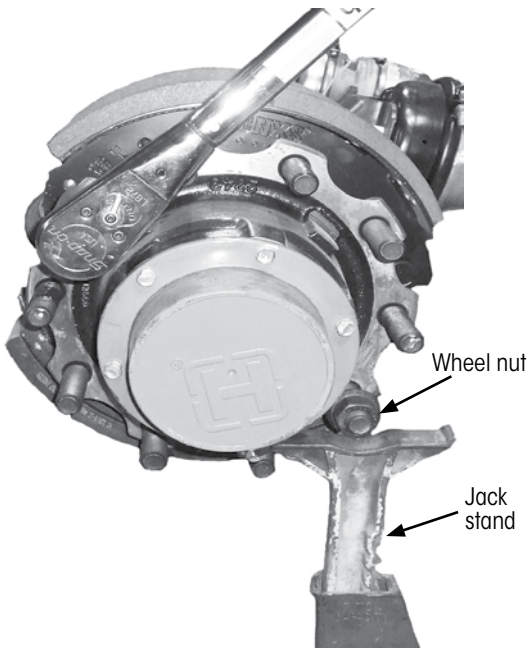

Figure 6: Stud draw-in process
- Complete stud draw-in process using a **torque** wrench set to 300 ft. lbs. (407 Nm) (Figure 6). With threads protected by a nut, a jack stand can be used to prevent the hub from turning, as shown in Figure 6.